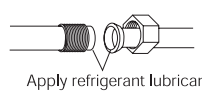

Figure 11
2. Be sure to apply refrigerant lubricant to the matching surfaces of the flare and union before connecting them together. This is effective for reducing gas leaks (Figure 11).